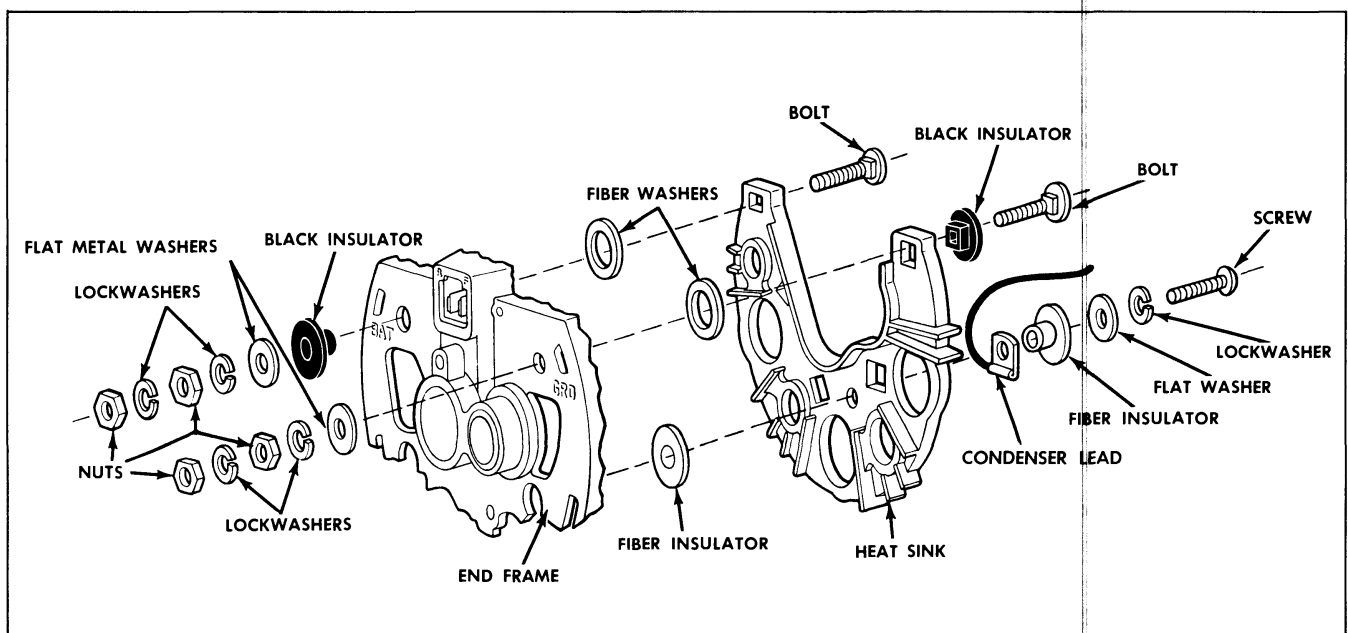

Fig. 11-23 Heat Sink Assembly
4. Replace heat sink assembly, noting the stack-up of parts shown in Fig. 11-23.